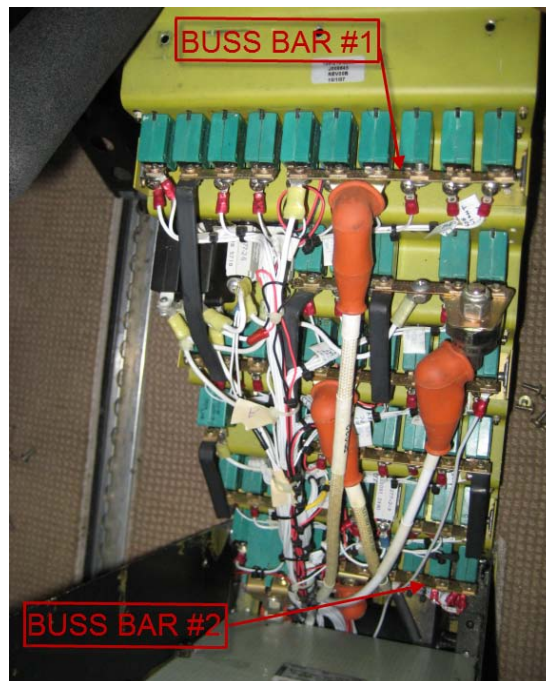
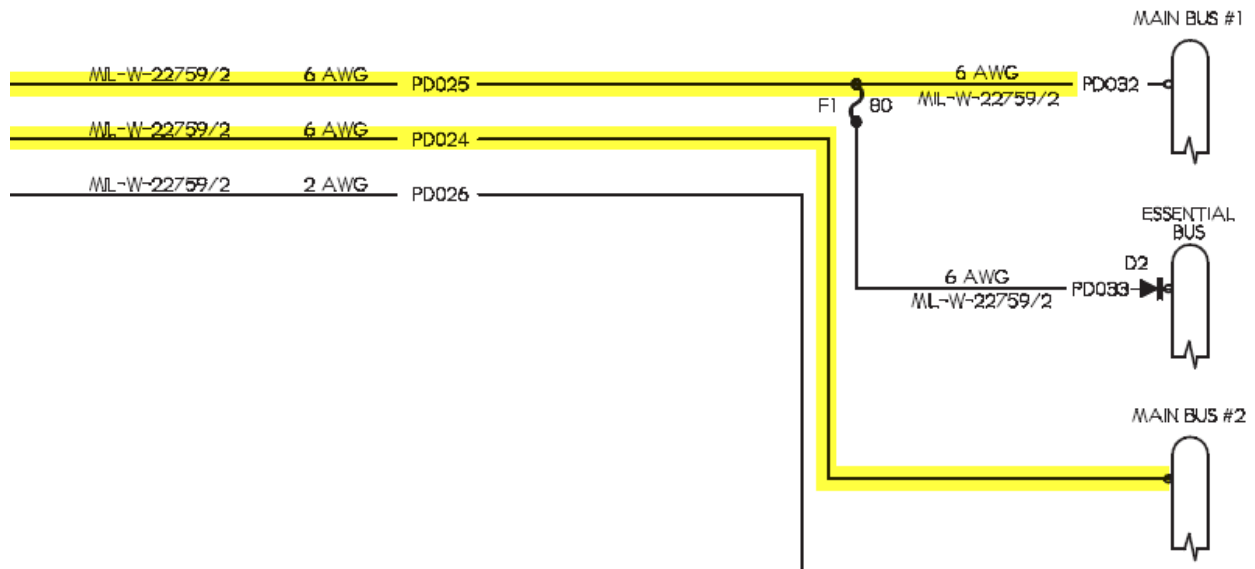

FIGURE 1
FIGURE 2
1. Identify on aircraft breaker panel, location of Buss Bar #1, Buss Bar #2 per Figure 1 and Figure 2 of the service letter. Use Aircraft wire PD025 as being connected to Buss #1 and PD024 as being connected to Buss #2 as reference points.